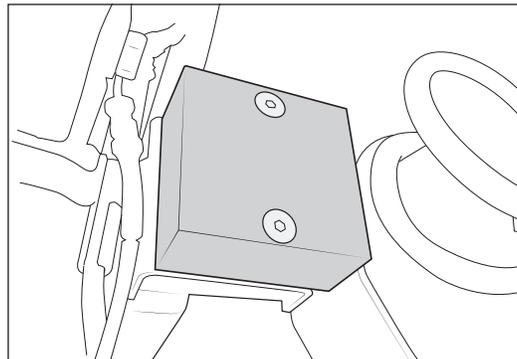

Figure 21
16. Install rear lower bumpstop spacers onto axle pads. Feed countersunk M10 bolts through spacers and existing holes in axle pads. Install flange nuts to bottom side of axle pads. Torque until there's only slight deformation of material at top of holes in spacer blocks (Fig 21).